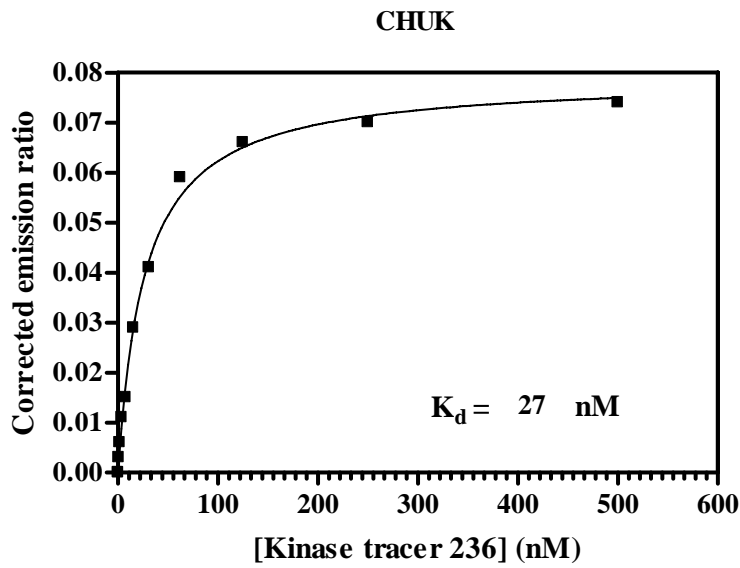

Figure 5. Tracer  $K_d$  determination.
5. Plot the background-corrected emission ratios versus [tracer] and fit to the one site binding (hyperbola) equation to estimate the dissociation constant (Figure 5). In some cases data at the highest one or two tracer concentrations are excluded from curve fits due to relatively high “background” signal in presence of competitor. This can be observed as these data points deviate from the one site binding model, whereas the other points align.